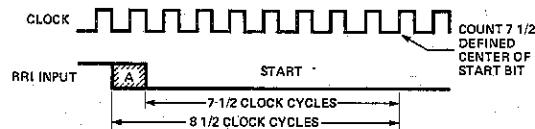

FIGURE 9. Start Bit Timing
The receiver uses a 16X clock for timing (see Figure 9.) The start bit ① could have occurred as much as one clock cycle before it was detected, as indicated by the shaded portion. The center of the start bit is defined as clock count 7 1/2. If the receiver clock is a symmetrical square wave, the center of the start bit will be located within  $\pm 1/2$  clock cycle,  $\pm 1/32$  bit or  $\pm 3.125\%$ . The receiver begins searching for the next start bit at the center of the first stop-bit.